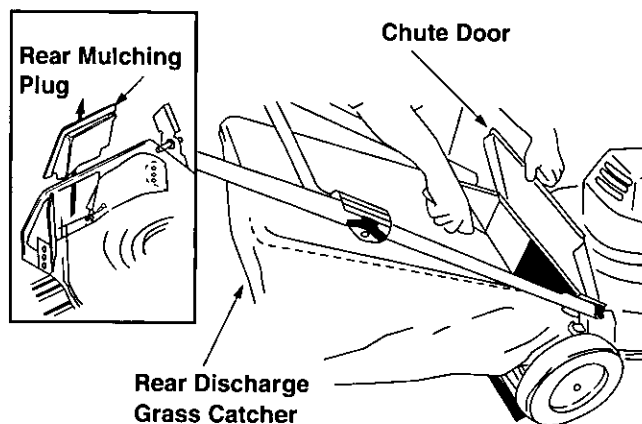

FIGURE 7
- Lift the chute door on the mower. Remove the rear mulching plug. Place hooks, located on two sides of the grass catcher frame, over the chute door pivot rod on the back of the unit. See Figure 7. Release chute door.